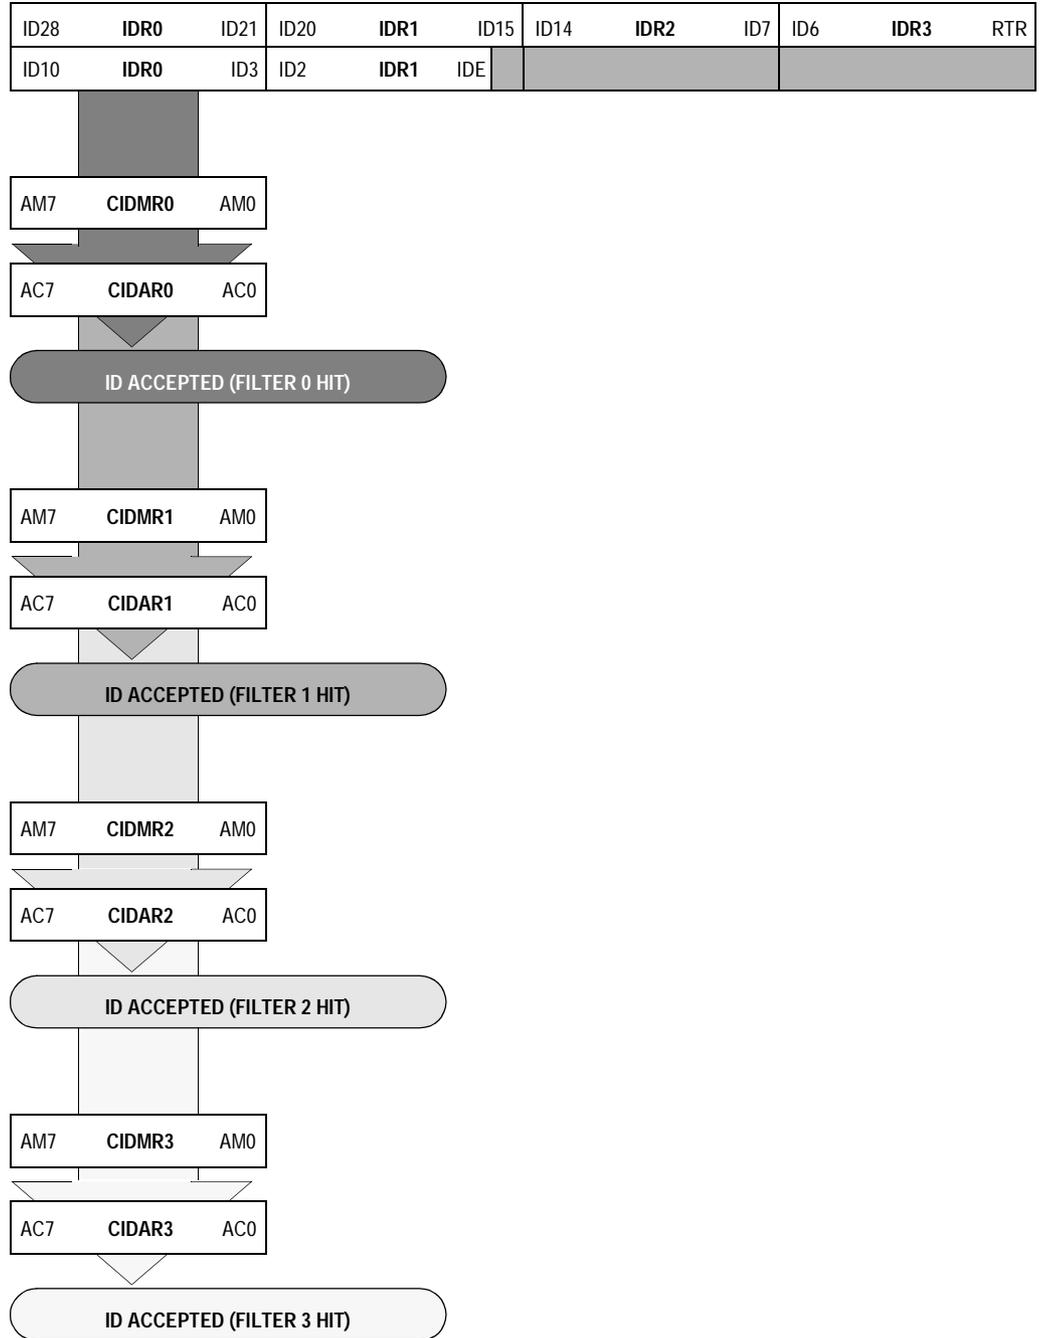

Figure 20-5. Quadruple 8-Bit Maskable Acceptance Filters
- Four identifier acceptance filters, each to be applied to the first eight bits of the identifier. This mode implements four independent filters for the first eight bits of a CAN 2.0A/B compliant standard identifier. **Figure 20-5** shows how the 32-bit filter bank (CIDAR0-3, CIDMR0-3) produces filter 0 to 3 hits.